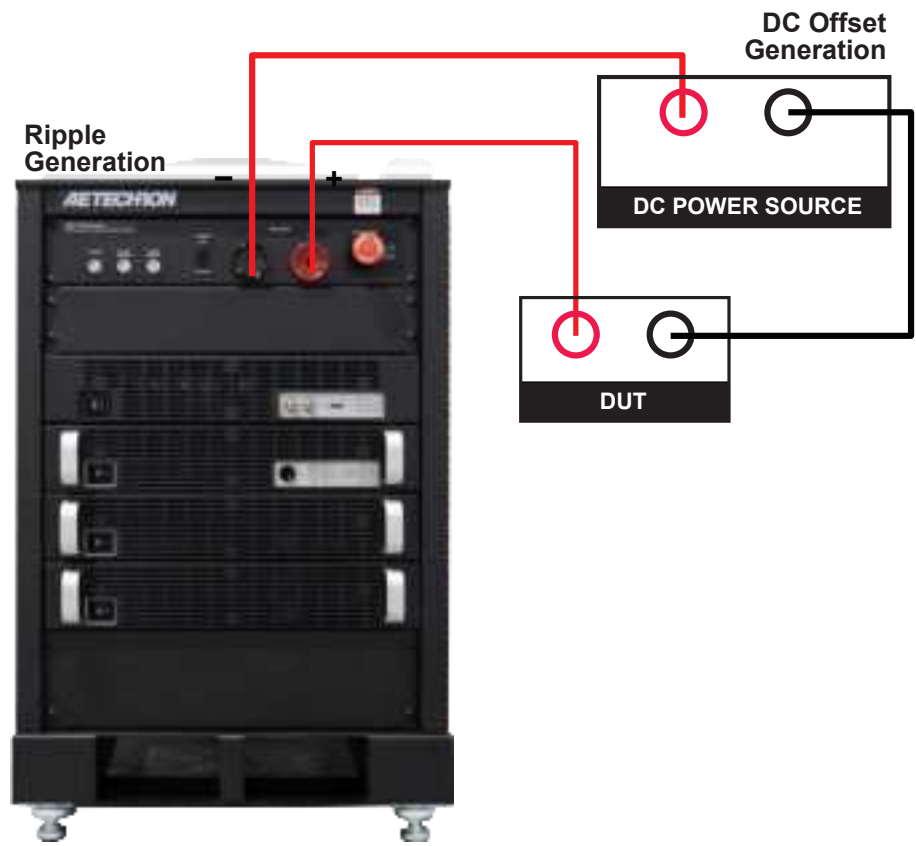

Figure 4.1 – Connections for Testing to ISO 16750-2 Section 4.8.
2. **Connect the Outputs:** Using the supplied pin-plug mating output connectors and wiring appropriate for your application, connect from the DSR 100 system's front-panel positive and negative test supply connectors to the DC supply source and the device under test as shown in **Figure 4.1**.